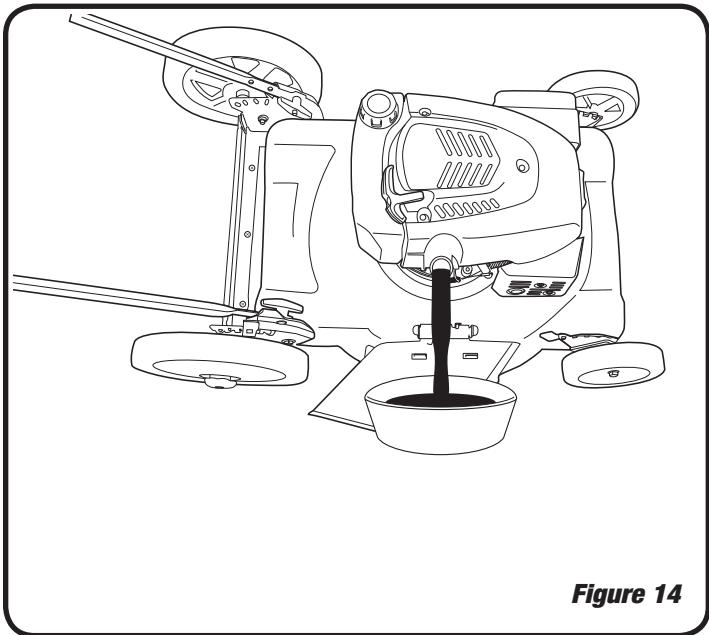

Figure 14
4. Place a suitable container next to mower to catch the used oil, and then tilt the mower on its right side. The used oil will drain through the filler neck. Allow oil to drain completely. See Figure 14.